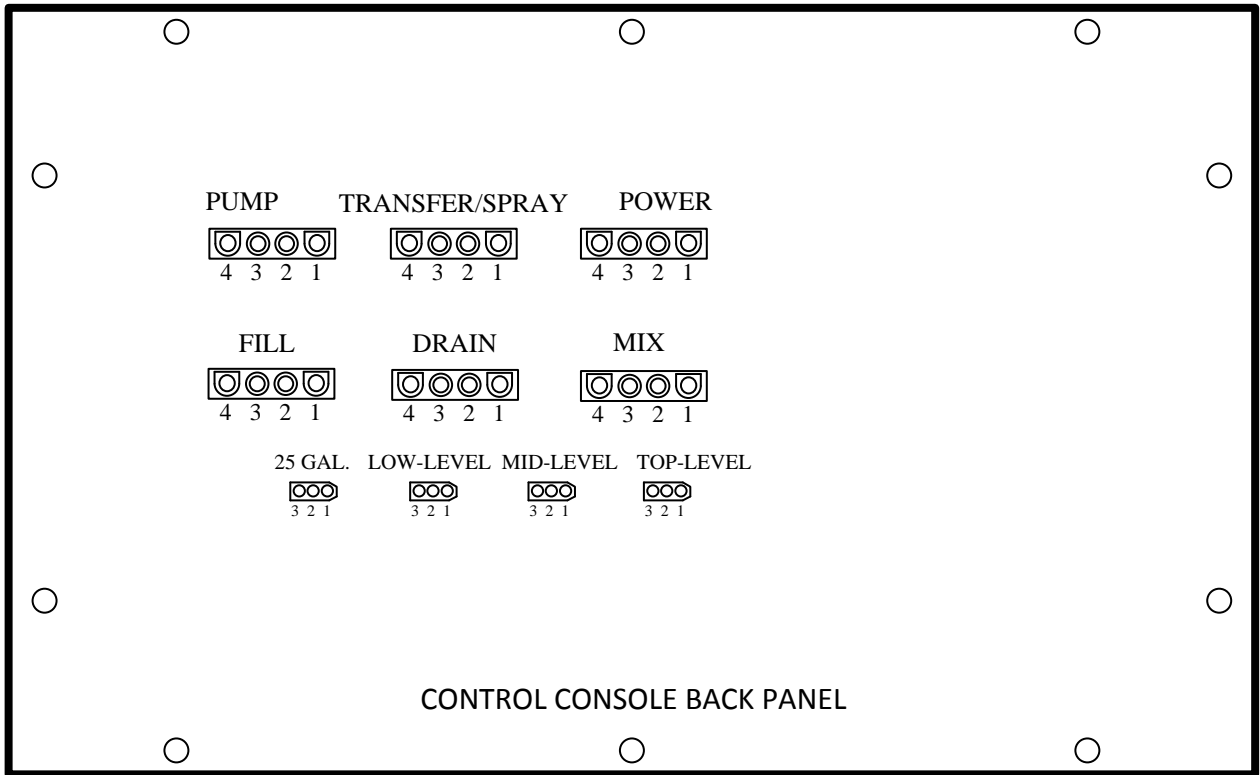

Figure 7
- 1.1 Unplug the PUMP cable from the back of the Control Console. Measure the AC voltage between pins 1 and 2 (two pins on right) on the Control Console. *See Figure 7 – page V-2.* Is there 120 VAC?
- 2.1 Unplug the MIX cable from the back of the Control Console. Measure the AC voltage between pins 1 and 2 (two pins on right) of the MIX connector on the Control Console. *See Figure 7 – page V-2.* Is there 120 VAC?
- 3.3 Unplug the FILL cable from the back of the Control Console. Measure the AC voltage between pins 1 and 2 (two pins on right) of the FILL connector. *See Figure 7 – page V-2.* Is there 120 VAC?
- 3.12 With the DADU in Recirculate Mode (LED on – not flashing) of the Rinse Cycle, unplug the FILL cable from the Control Console. Measure the AC voltage between pins 1 and 2 (two pins on right) of the FILL connector. *See Figure 7 page V-2.* Is there 120 VAC?
- 3.16 While in Add Granules Mode (LED on – not flashing) unplug the FILL cable from the Control Console. Measure the AC voltage between pins 1 and 2 (two pins on right) of the FILL connector. *See Figure 7 above.* Is there 120 VAC?
- 3.19 While in Homogenize Mode, unplug the FILL cable from Control Console. Measure the AC voltage between pins 1 and 2 (two pins on right) of the FILL connector. *See Figure 7 on page V-2.* Is there 120 VAC?
- 4.2 Turn OFF the Water Inlet valve. Start the Rinse Cycle – Fill LED on – not flashing. Unplug the DRAIN cable from the Control Console. Measure the AC voltage between pins 1 and 2 (two pins on right) of the DRAIN connector. *See Figure 7 on page V-2.* Is there 120 VAC?
- 4.3 While still in Fill Mode (LED on – not flashing) of the Rinse Cycle (DRAIN cable is unplugged) measure the AC voltage between pins 1 and 4 (outer two pins) of the DRAIN connector. *See Figure 7 on page V-2.* Is there 120 VAC?